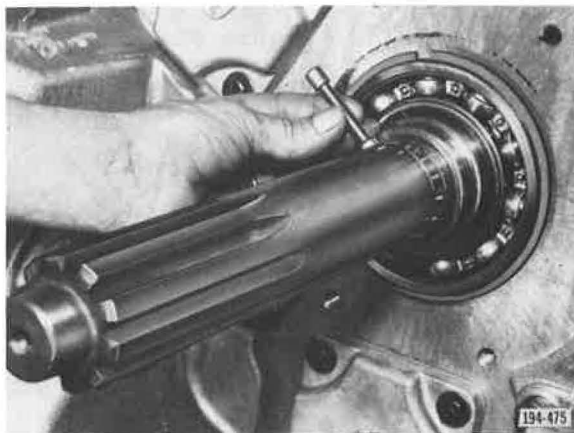

Figure 88. Removing Oil Pump Vane
3. Remove oil pump vane from front compound main drive pinion. See Figure 88.